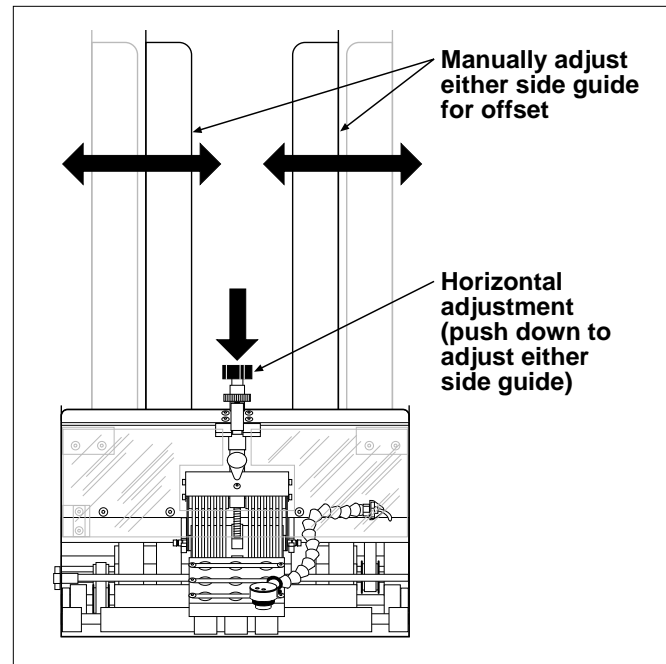

Figure 2-7. Individual Side Guide Offset
**One-Knob Side Guides.** To adjust each side guide for proper *offset* horizontal spacing using the single-knob adjustment, follow these steps (Figure 2-7):